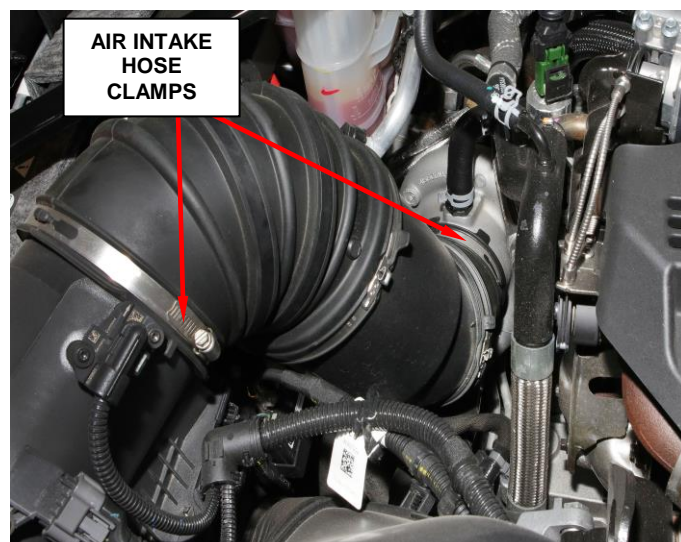

Figure 2 – Air Intake Hose
3. Loosen the air intake hose clamp and remove the clean air hose from turbocharger (Figure 2).
4. Loosen the air hose clamp from the air cleaner housing and remove the clean air hose (Figure 2).
15. Install the clean air hose and securely tighten the clamp (Figure 2).